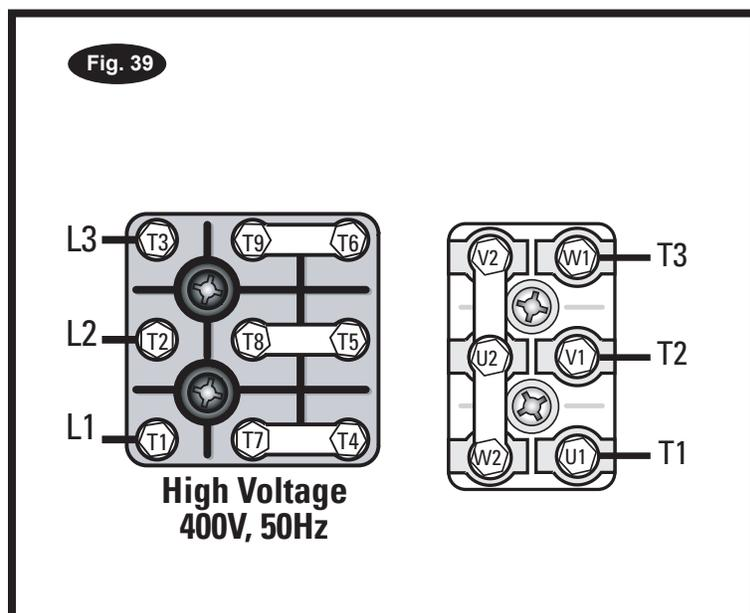

Fig. 40
- Fasten control control base plate using 5 pcs Hex socket screw M8*10 and 4m thickness wahser Fig 40,41&42 .